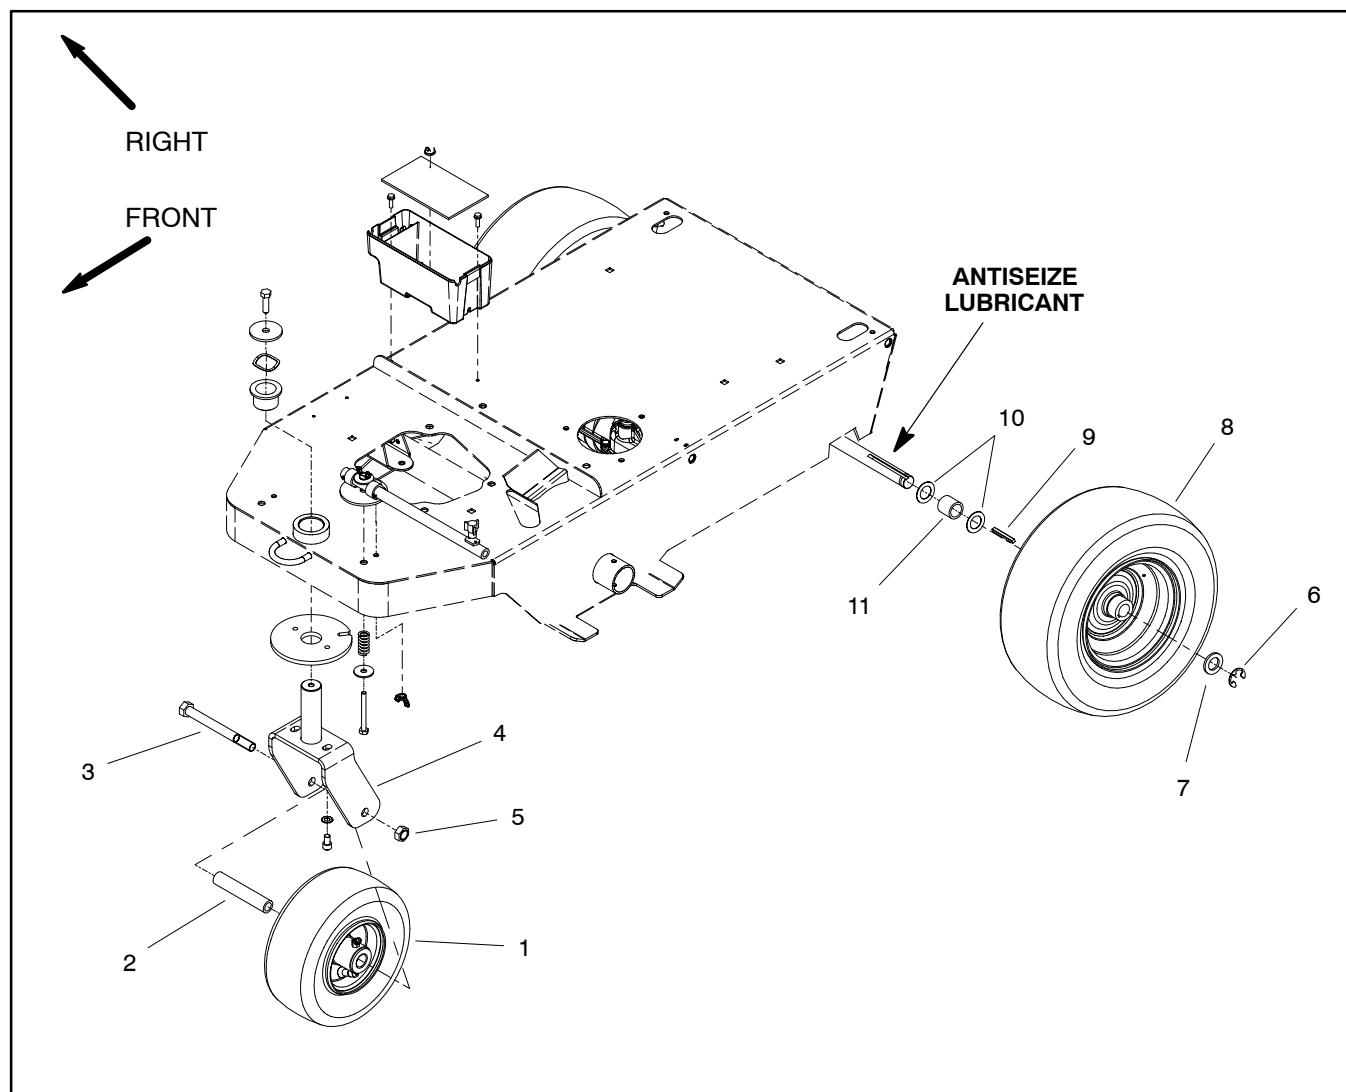
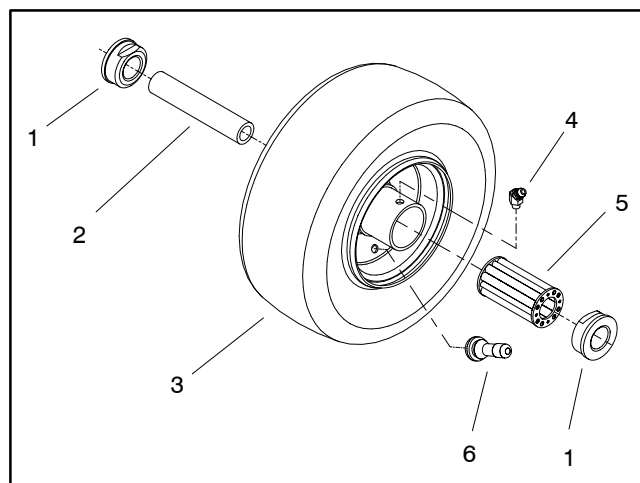

Figure 4
Figure 5
**Removal (Fig. 4)**
A. Remove lock nut (item 5) and cap screw (item 3) that secure wheel to castor fork.
C. Remove front wheel bushing and bearings as needed (Fig. 5).
A. Remove e-ring (item 6) and washer (item 7) that secure wheel to transaxle shaft.
C. Locate and retrieve square key (item 9).
**Installation (Fig. 4)**
A. If front wheel bushing and bearings were removed, install bushing and bearings to wheel assembly (Fig. 5).
C. Install cap screw (item 3) and lock nut (item 5) to secure wheel to castor fork.
A. Apply antiseize lubricant to transaxle shaft. Position square key (item 9) in transaxle slot.
C. Secure wheel to transaxle shaft with washer (item 7) and e-ring (item 6).